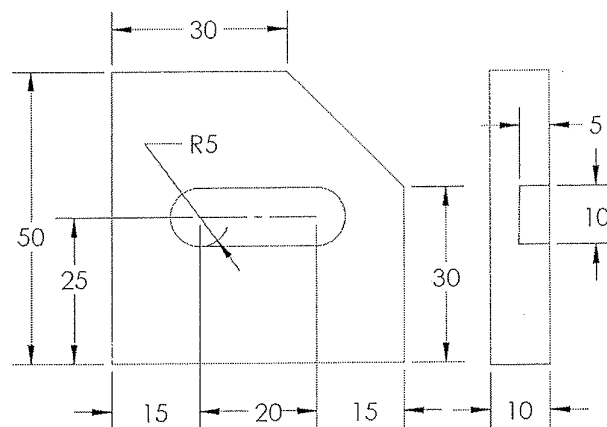

Figure 01
- Write a manual part program to mill the profile and the slot of the component shown in *Figure 01*.